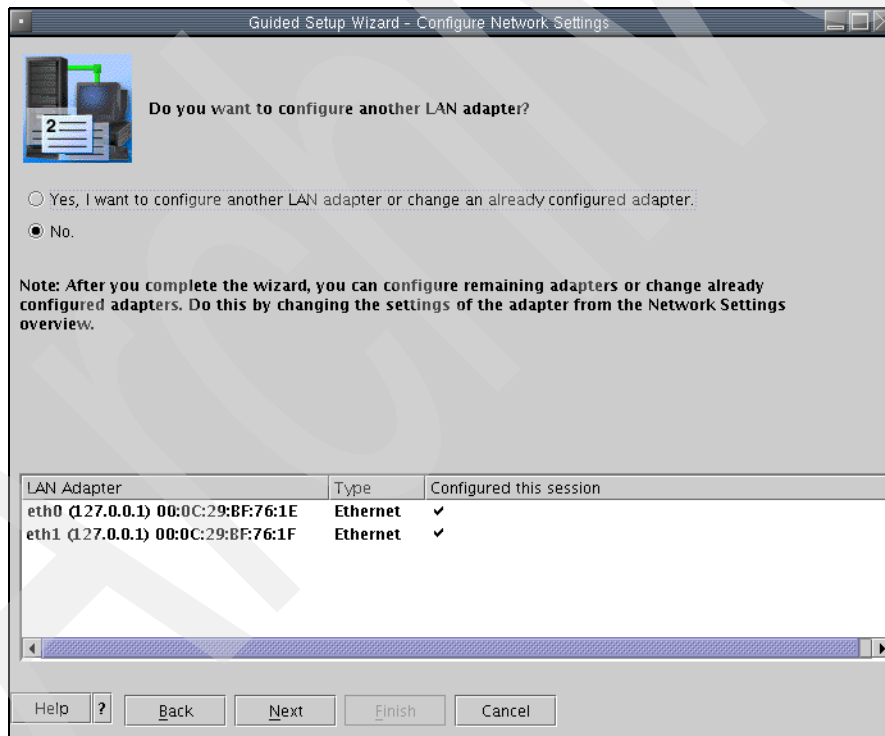

Figure 4-27 Guided Setup - Final network configuration panel
26. The Guided Setup Wizard - Configure Network Settings panel is shown (Figure 4-27). If you have more network adapters available you can configure them now by selecting the relevant adapter and selecting the **Yes** radio button.